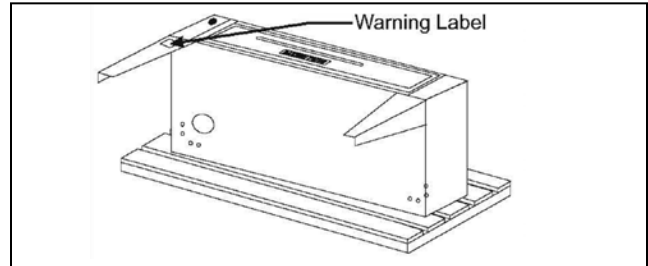

Figure 1
- a) Legs are shipped in a separate carton complete with mounting bolts and washers. Firmly bolt two legs (in case of casters, the two with the brakes must be used here) to the upper two corners (front) of the oven as it rests on the pallet. Note: (See Fig. 1).